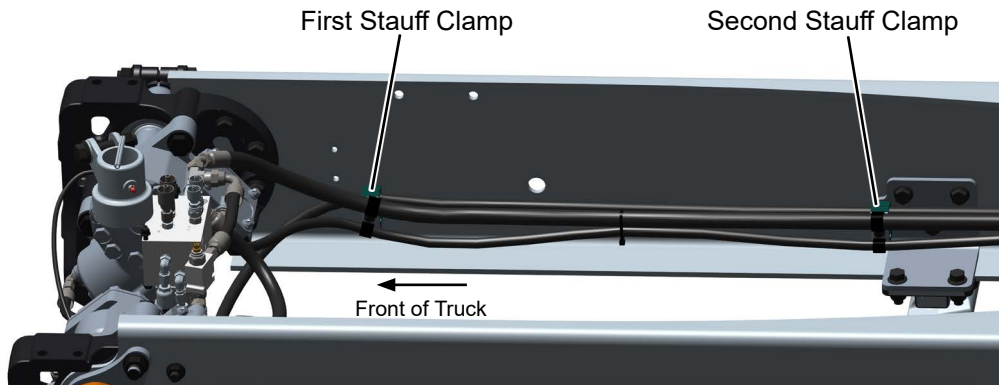

Figure 7
17. If changing out the second STAUFF clamp a 3.25 inch screw is required. Perform Steps 3 - 12 and Step 14 to change out the second STAUFF clamp. Orientation of the second clip stack is vertical, see Figure 7.